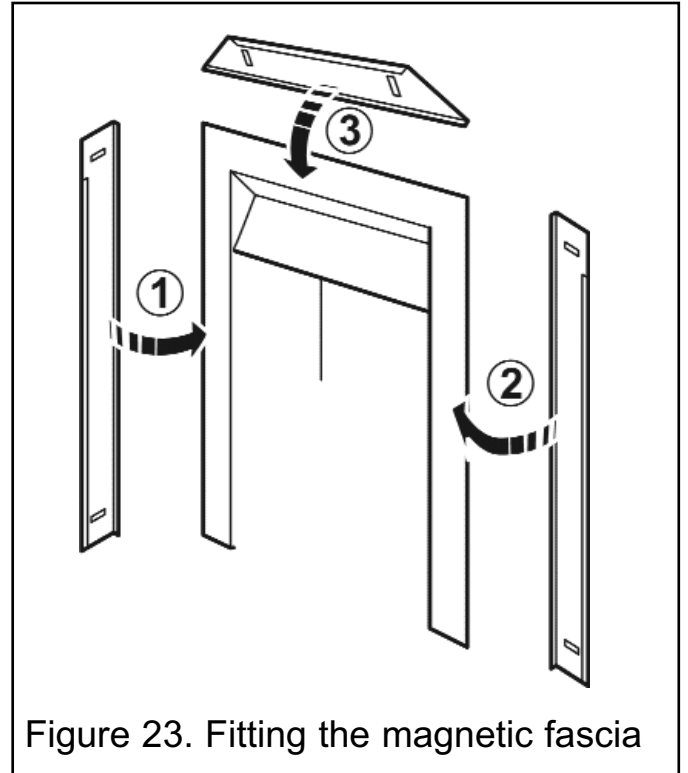

Figure 23. Fitting the magnetic fascia
3. Locate the side trims as in figure 23.
4. Locate the top trim as in figure 23.